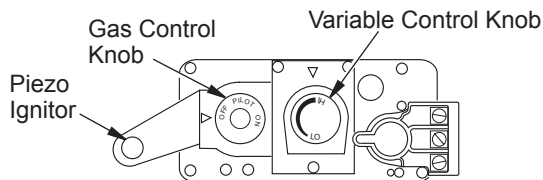

Figure 45 - Control Valve
- Turn gas control knob counterclockwise to "PILOT" (see Figure 45).
- Push in gas control knob all the way and hold. Immediately light the pilot by repeatedly depressing the piezo spark ignitor until a flame appears. Continue to hold for about one (1) minute after the pilot is lit. Release gas control knob and it will pop back. Pilot should remain lit. If it goes out, repeat steps 5 through 8.